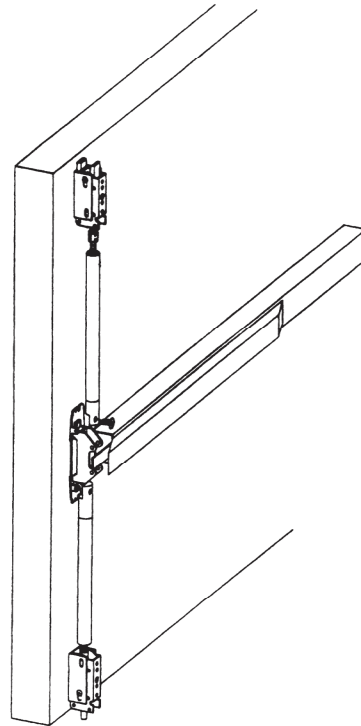

Figure 12
5. Tighten top rod with rod connector onto the bit glide plate (upper side), see Figure 12.